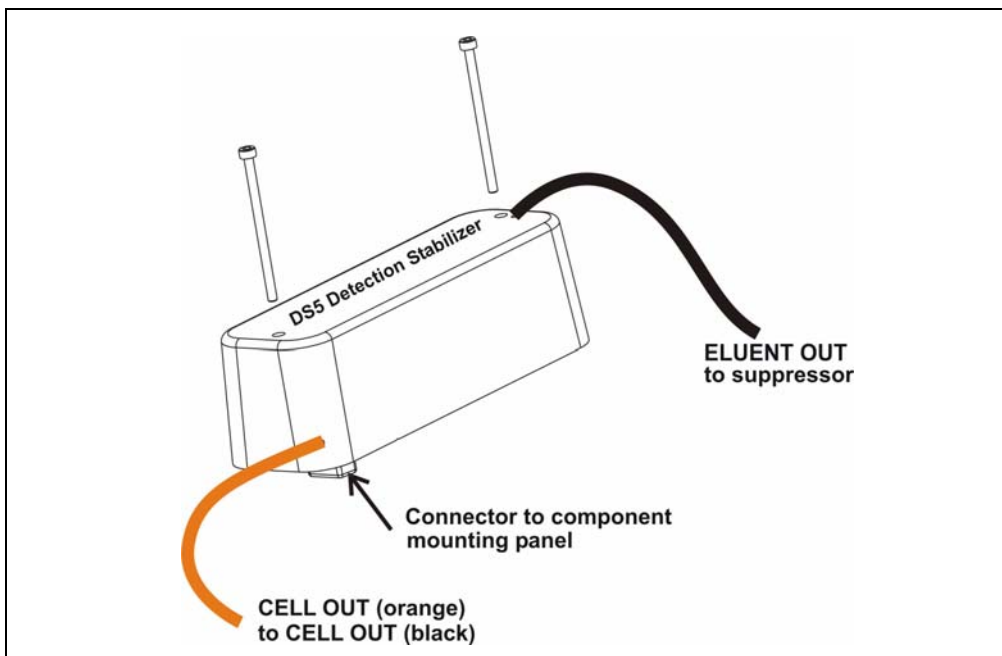

Figure 5-10. DS5 Detection Stabilizer Assembly
3. Disconnect the black **ELUENT OUT** line from the **ELUENT OUT** port on the suppressor (see Figure 5-10).